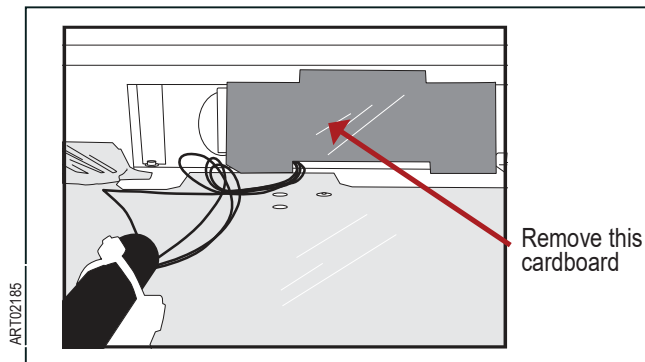

Fig. 2 Remove cardboard from back of display board
- Remove and keep cardboard from back of display board. Refer to Fig. 2.